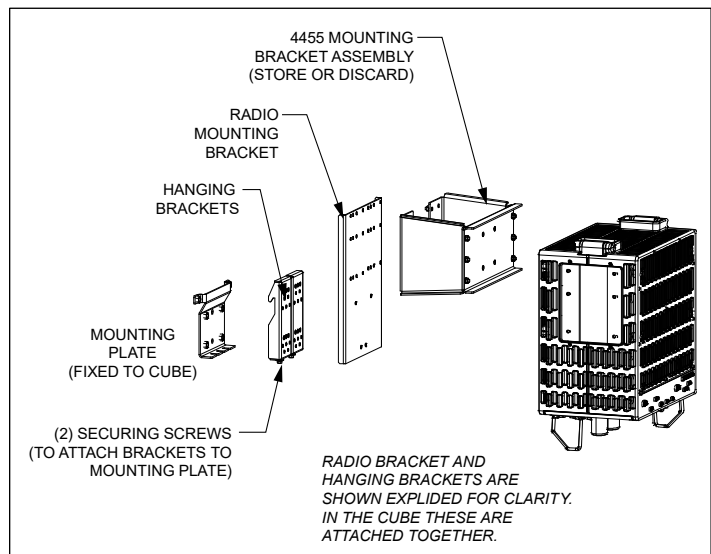

Figure 15 Left Side Samsung Dual Band Radio
3. Mount the second Samsung dual band radio onto the radio mounting bracket using customer supplied hardware (Figure 15).